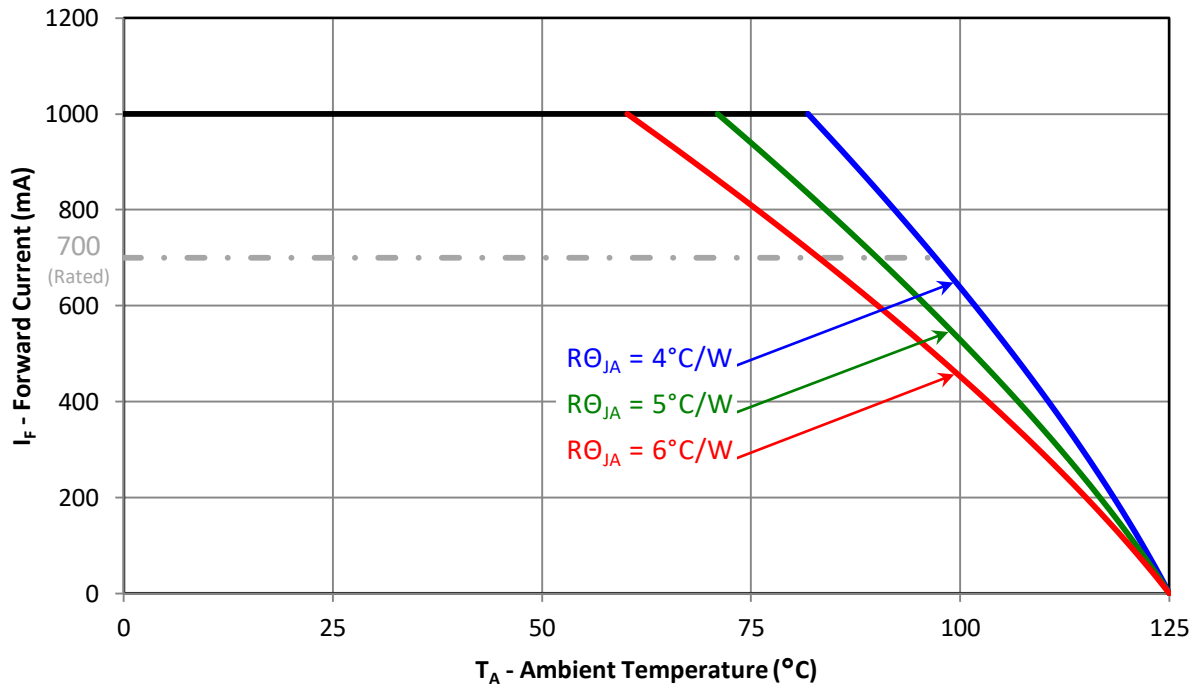

Figure 11: Maximum forward current vs. ambient temperature based on  $T_{J(\text{MAX})} = 125^\circ\text{C}$ .
- Maximum DC forward current (per die) is determined by the overall thermal resistance and ambient temperature. Follow the curves in Figure 11 for current derating.
Notes for Figure 11: